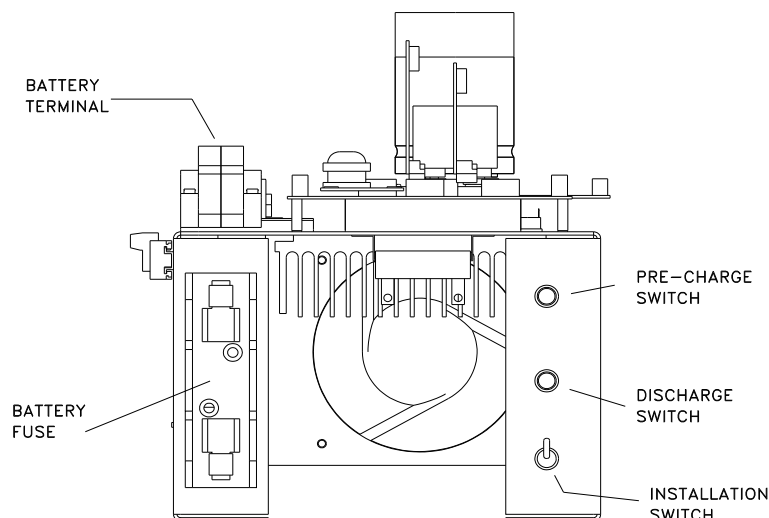
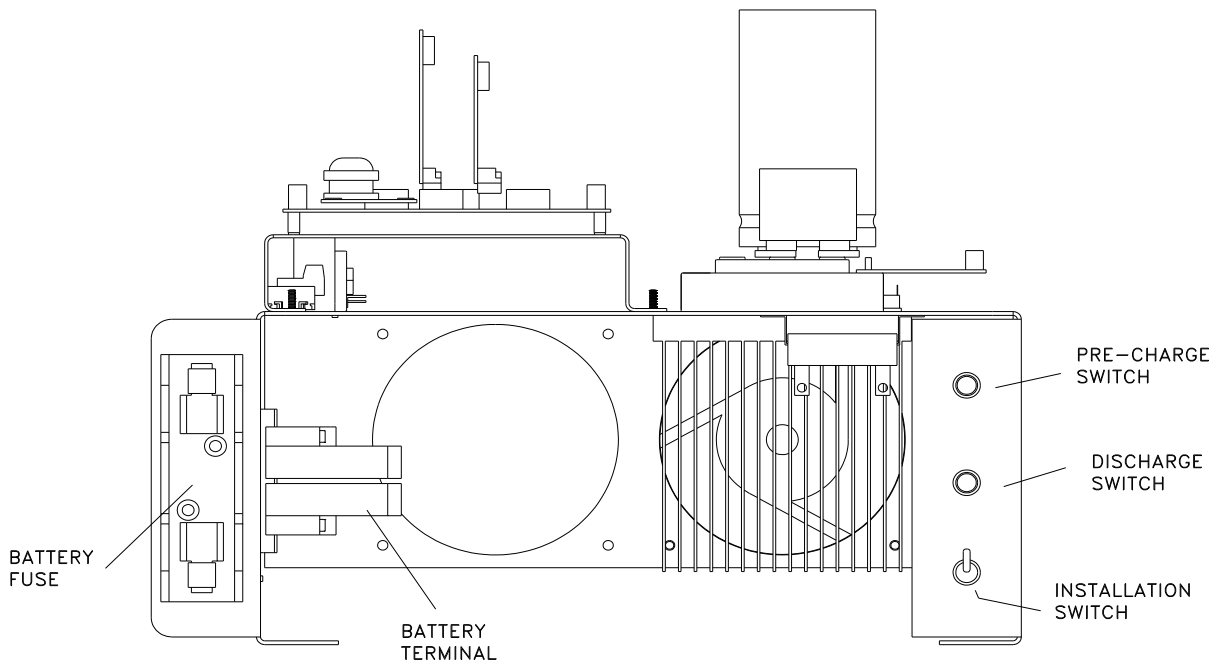
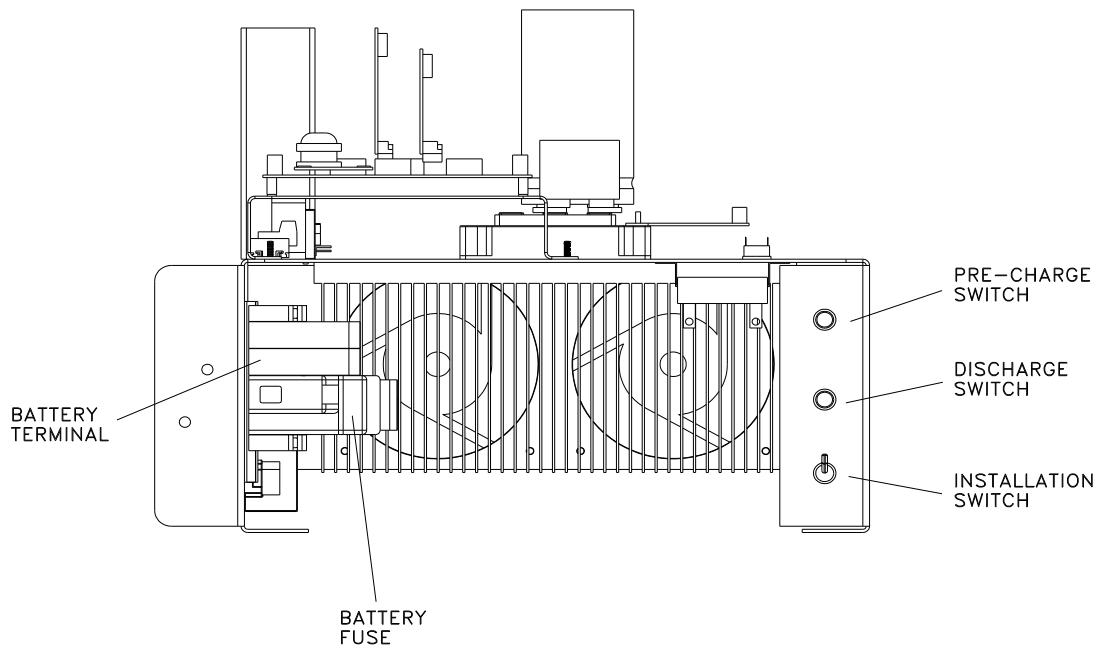

Figure 7.1 Battery Fuse, DC Pre-charge Switch & Installation Switch (1.5 kW – 5.0 kW)
Figure 7.2 Battery Fuse, DC Pre-charge Switch & Installation Switch (6 kW – 8 kW)
Figure 7.3 Battery Fuse, DC Pre-charge Switch & Installation Switch (10 kW – 16.7 kW)
2. Locate the DC Pre-charge Switch (S2), see figure 7.1 or figure 7.2 or figure 7.3; press it for five seconds; then, install the main battery fuse (F1) inside the electronics cabinet.